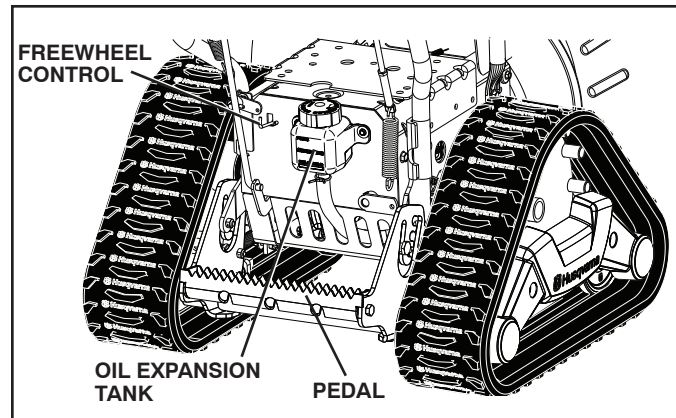

FIG. 13
Your snow thrower is equipped with a foot controlled height adjustment mechanism (See Fig. 13).
**IMPORTANT:** Your model snow thrower is equipped with an oil expansion tank attached to the hydrostatic transmission (see fig. 13). As you run your snow thrower, the oil level will rise in this tank as the oil heats up and recess as the oil cools. This is normal operation. You do not need to add oil to this tank as part of regular maintenance.